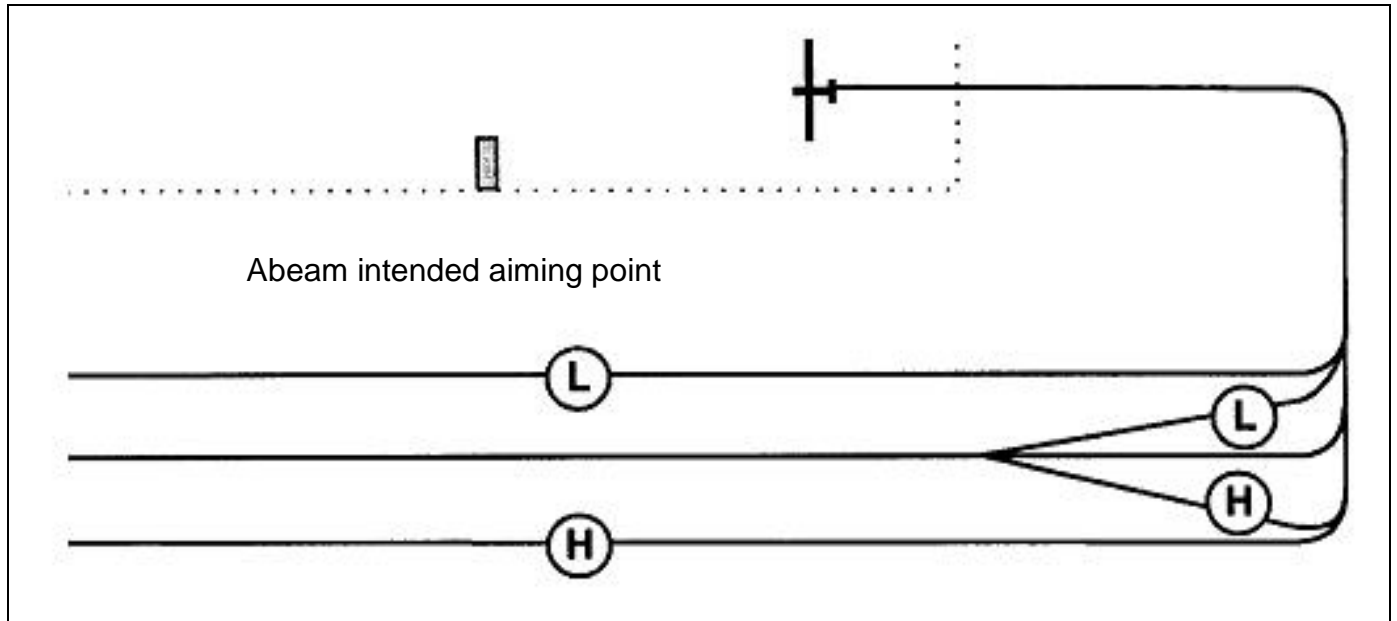

Figure 4-2 Downwind Modifications
13. After the halfway point of the downwind you should have a good idea whether you will be high or low for the base turn and you can adjust accordingly. You can adjust/close your spoilers and/or shorten the downwind leg if you are low. You can even start angling in towards the landing area if you are extremely low (note Figure 4-2). If you are high you can use spoilers to lose the excess altitude or you can angle out slightly to give yourself a longer base leg.